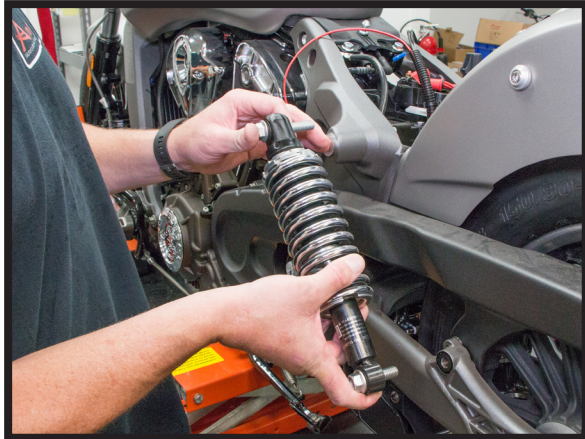

FIGURE 20
8. SUPPORTING THE MOTORCYCLE FRAME WITH A JACK, REMOVE THE LEFT SHOCK FIRST. THEN, REMOVE THE UPPER BOLT FROM THE RIGHT SHOCK. LOWER THE BIKE ON THE CENTER JACK TO GAIN ACCESS TO THE LOWER BOLT. (FIGURES 20, 21)